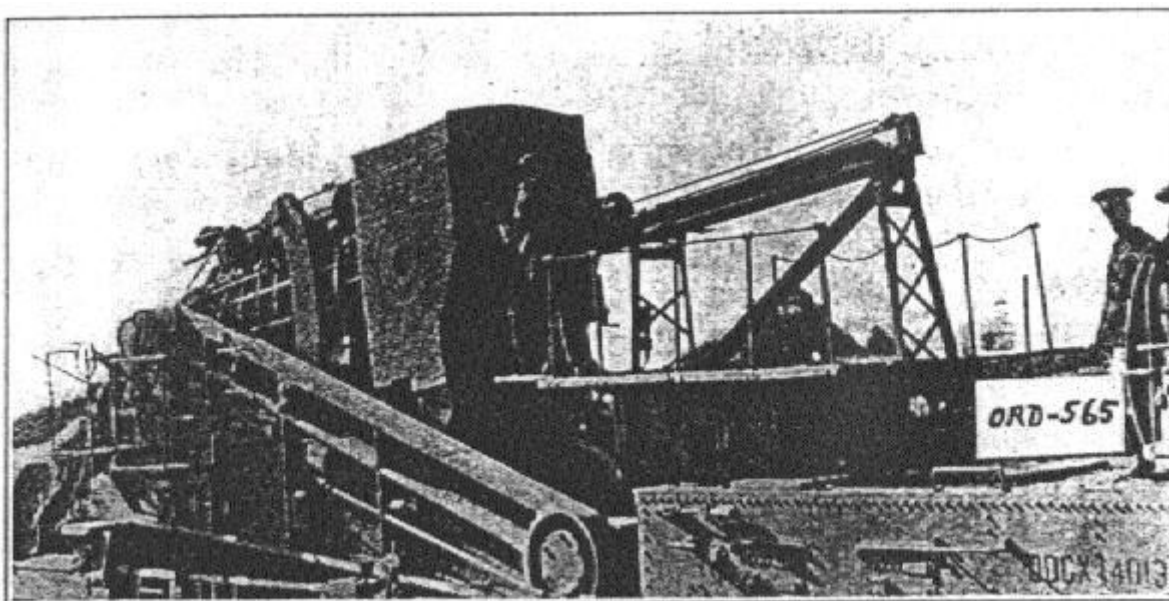

FIGURE 3
**24. Withdrawal of dummy ammunition.-** Due to the fact that the gun is at an elevation of -7 degree when in loading position, the present extractors for the projectile have been found inadequate to draw the projectile up to the 7 degree incline and lift it over the edges of the sliding tray and loading tray. This difficulty is overcome by utilizing a block and tackle in the following manner: At the command **Unload** or **Cease firing** No.1, assisted by the chief of breech, opens the breech. The spanning tray is run into the breech by Nos. 2, 3, 4, and 5 who then withdraw the sections of the powder charge, using the hand extractor furnished. These sections are placed upon the powder tray and turned over to No.8, who causes the powder tray to be raised from the loading tray and lowered to the powder serving detail. In the meantime No.7 assisted by No.2 and 3 arranges the block and tackle as shown in Figure 3. The projectile is unseated from the forcing cone and withdrawn into the powder chamber by Nos. 2, 3, 4, and 5, using the hand extractor provided. It is then withdrawn by power to the loading tray by No. 7 assisted by Nos. 2 and 3 who guide it over the edges of the spanning and loading tray. In utilizing the block and tackle to withdraw the dummy projectile, care must be taken to see that no injury is done to the member to which the upper hook of the block and tackle is made fast.